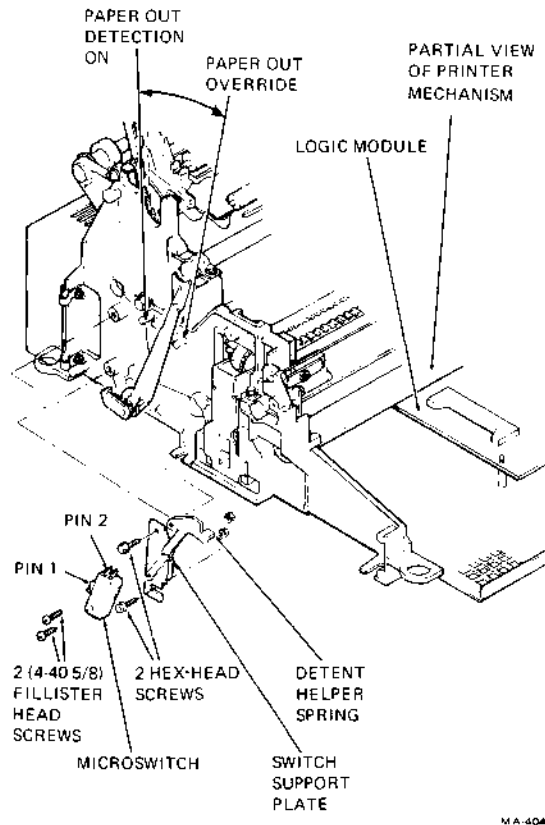

Figure 3-18 Paper Out Detection Switch Installation
11. Secure the microswitch and detent helper spring to the switch support plate using two (4-40 \times 5/8) fillister screws and two (4-40) kep nuts (Figure 3-18).
12. Using a 1/4 inch open-end wrench, remove the top switch support plate hex-head screw and loosen the bottom switch support plate hex-head screw (Figure 3-18).
14. With the paper out override lever in the detect on position, adjust the switch support plate to activate (press) the microswitch (Figure 3-18). Using a 1/4-inch open-end wrench, tighten the hex-head screw on the bottom switch support plate.